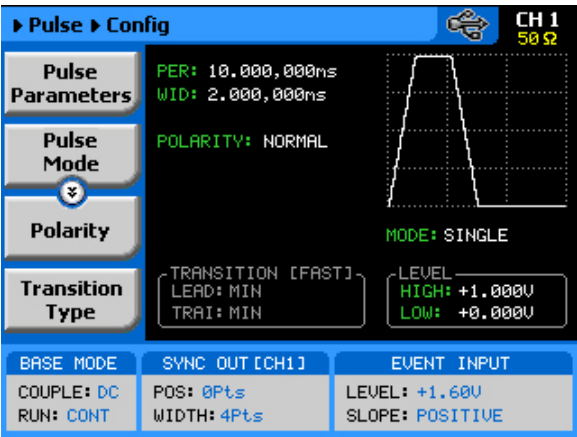

Figure 3-40, Pulse Configuration Menus
**Config** – provides access to a new menu that has pulse configuration controls. The configuration menu is shown in Figure 3-40 and its controls are described below. There are five control parameters in this menu: Pulse Parameters, Pulse Mode, Polarity, Transition Type and Level Control. Each of these controls has a major impact on pulse characteristics and therefore will be addressed and explained.